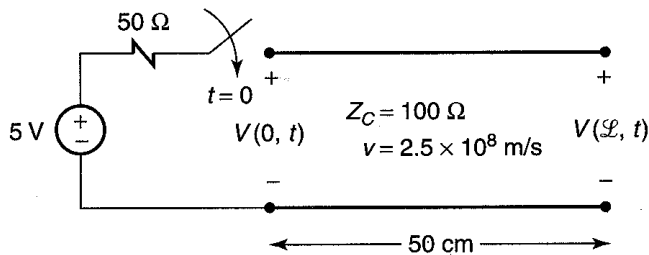

Figure P6.2.10 Problem 6.2.10.
6.2.10. Sketch the load voltage, $V(\mathcal{L}, t)$, and the input voltage to the line, $V(0, t)$, for the problem depicted in Fig. P6.2.10 for $0 < t < 20$ ns. What should these plots converge to in the steady state?